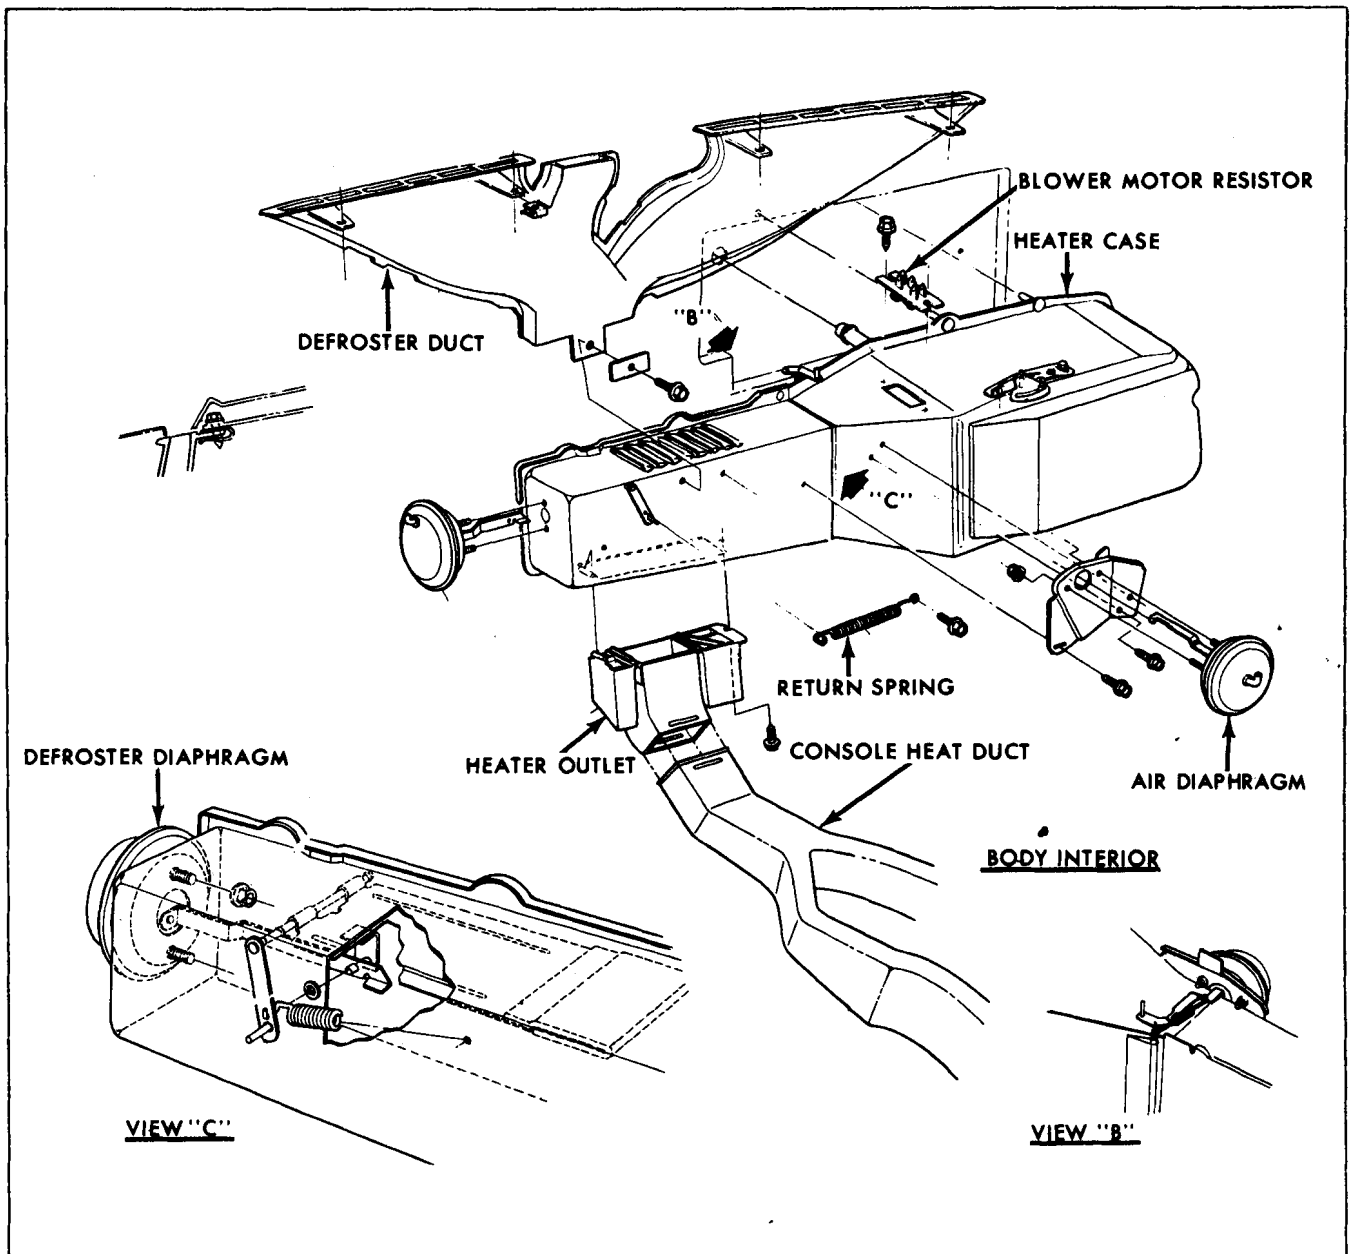

Fig. 1-6 Grand Prix-Vacuum Diaphragm and Duct Installation
2. Remove heater outlet (Fig. 1-6).